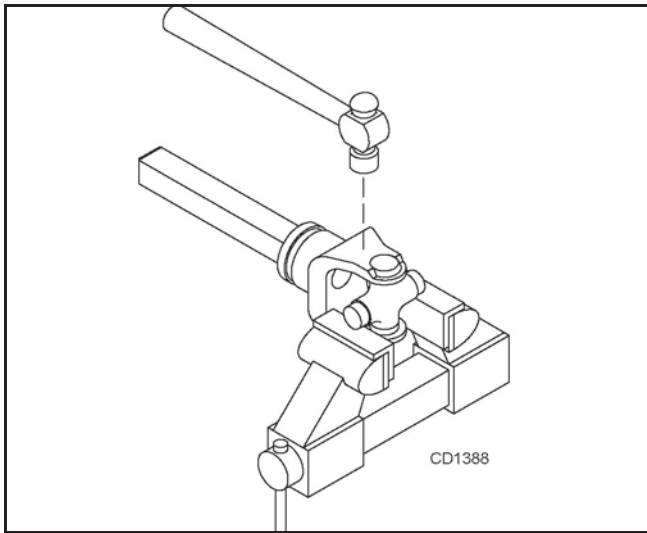

Figure 31. Remove Cups
4. Place universal cross in vise as shown in Figure 31 and tap on yoke to remove cup. Repeat Step 3 for final removal. Drive remaining cup out with a drift and hammer.